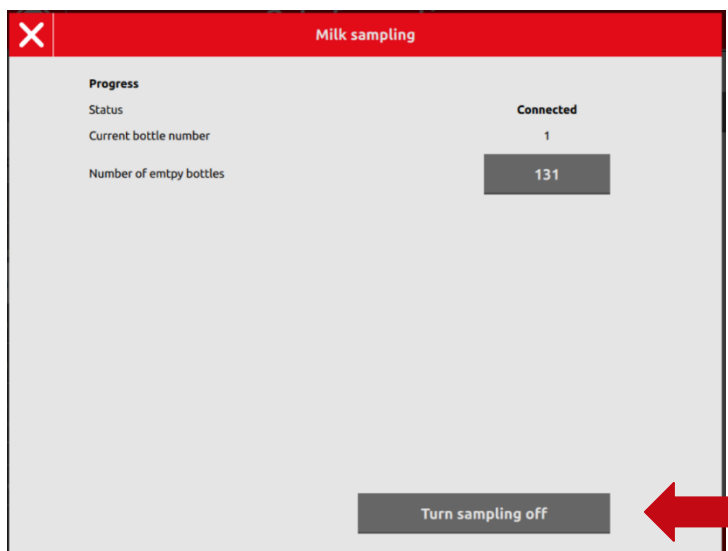

Figure 40. Milk sampling menu
3. On the Menu, select Turn sampling off, see the figure 40